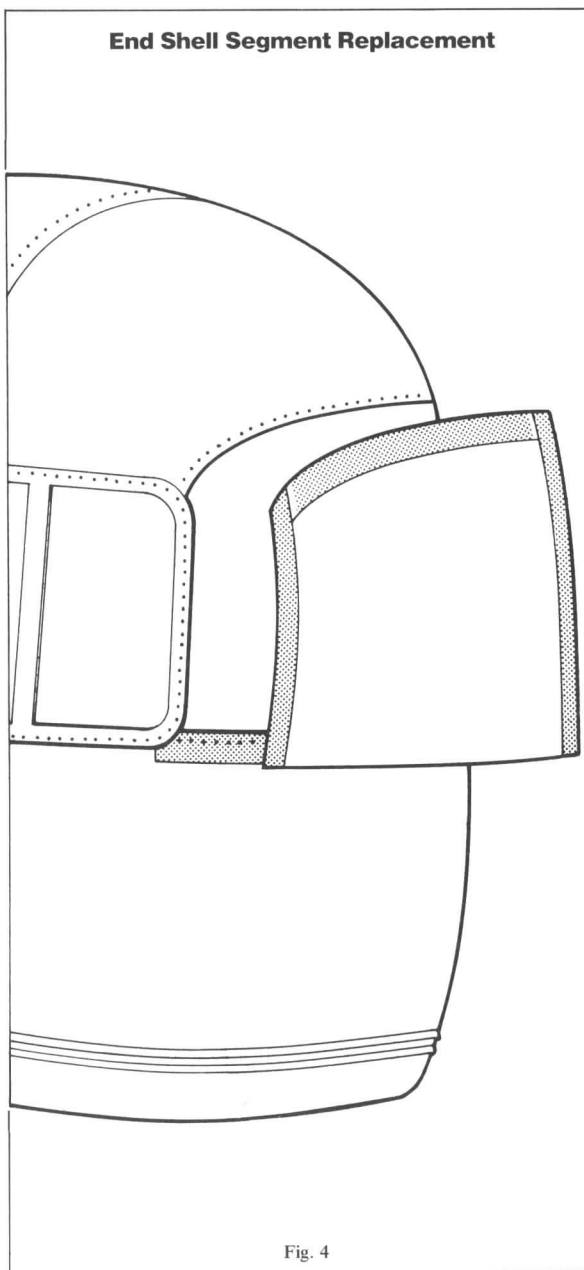

Fig. 4
14. Fit a piece of seam tape under roof or side sheet to make a waterproof seal on the rib seam. As soon as tape is in place, drill and hold with wedge-lock as in step 12. (See Fig. 4).